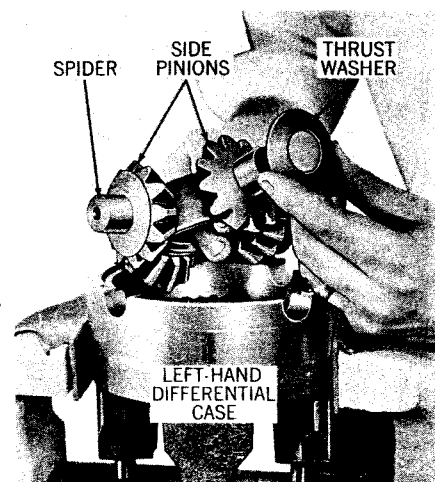

Fig. 41
- 2.** Place thrust washer and short-hub side gear in left-hand differential case. Assemble side pinions and thrust washers to spider, then place this assembly in left-hand differential case (see fig. 41).